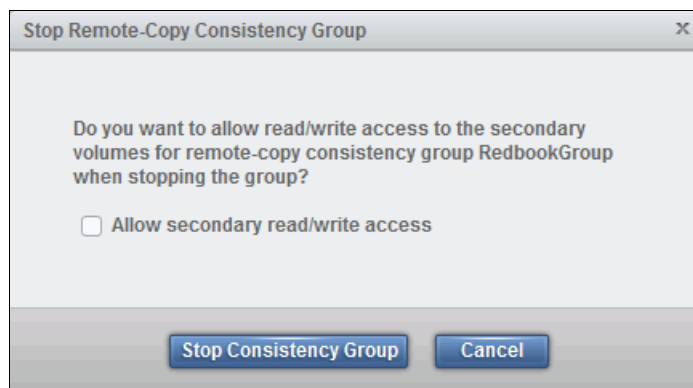

Figure 10-136 Allowing read/write access when stopping a consistency group
2. You are asked if you want to allow read/write access to secondary volumes, as shown in Figure 10-136. Make your choice and then click **Stop Consistency Group**.